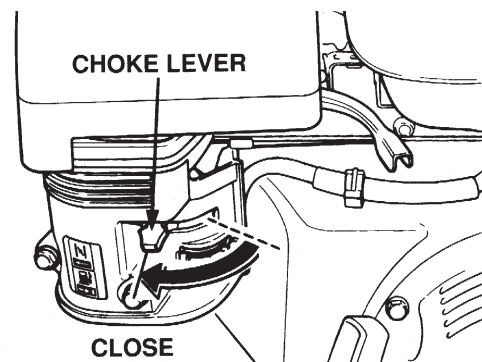

Figure 22. Choke Lever (Closed Position)
6. If operating the Cutter 3 in **cold weather conditions**, place the **Choke Lever** (Figure 22) in the **CLOSED** position.
4. If operating the Cutter 3 in **cold weather conditions**, place the **Choke Lever** (Figure 22) in the **CLOSED** position.